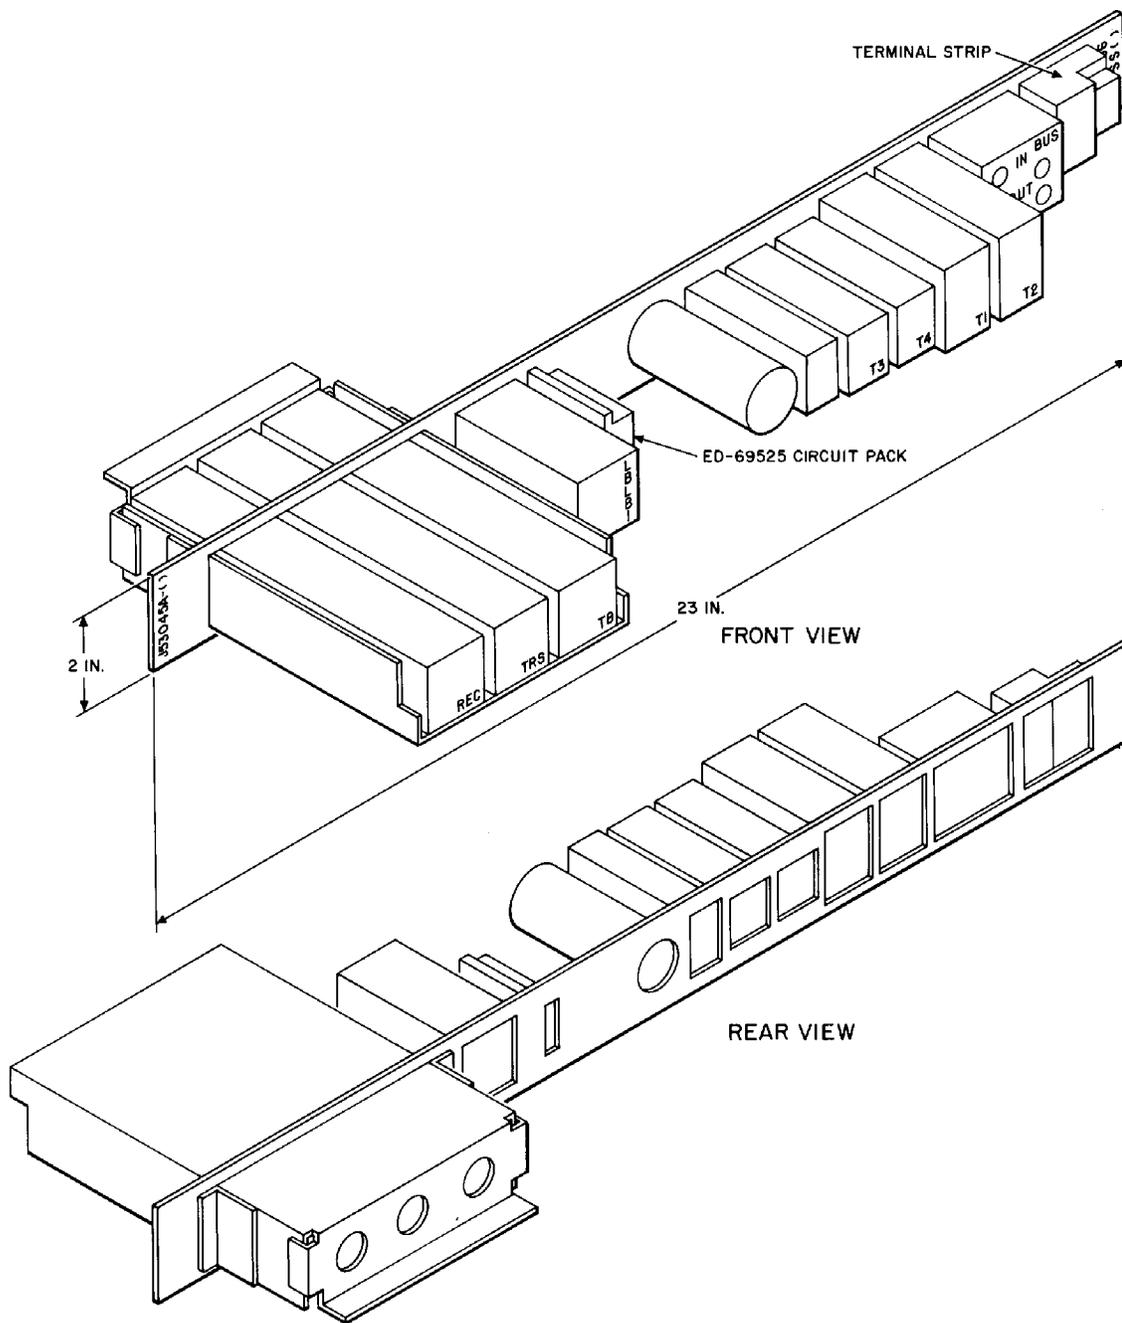

Fig. 1—Terminating Unit
**2.02** Transmission lines may be checked from a serving central office test center by applying -48 volts dc to the simplex leads of the line to operate a loop-back relay in the terminating unit (Fig. 1). The loop-back circuit is capable of operating over the simplex leads of 1500-ohm (maximum) transmit and receive loops using -44 to -52 volts dc. All components of the loop-back circuit, except the loop-back relay, are on a plug-in circuit pack (ED-69524) so that the loop-back maintenance feature may be provided on an optional basis by the terminating unit.
2.16 The wired-in signaling circuit pack assembly (Fig. 1) is part of the ac or dc signaling circuit. It contains part of the detection circuit for inward signaling. A circuit pack arrangement is used to facilitate maintenance.